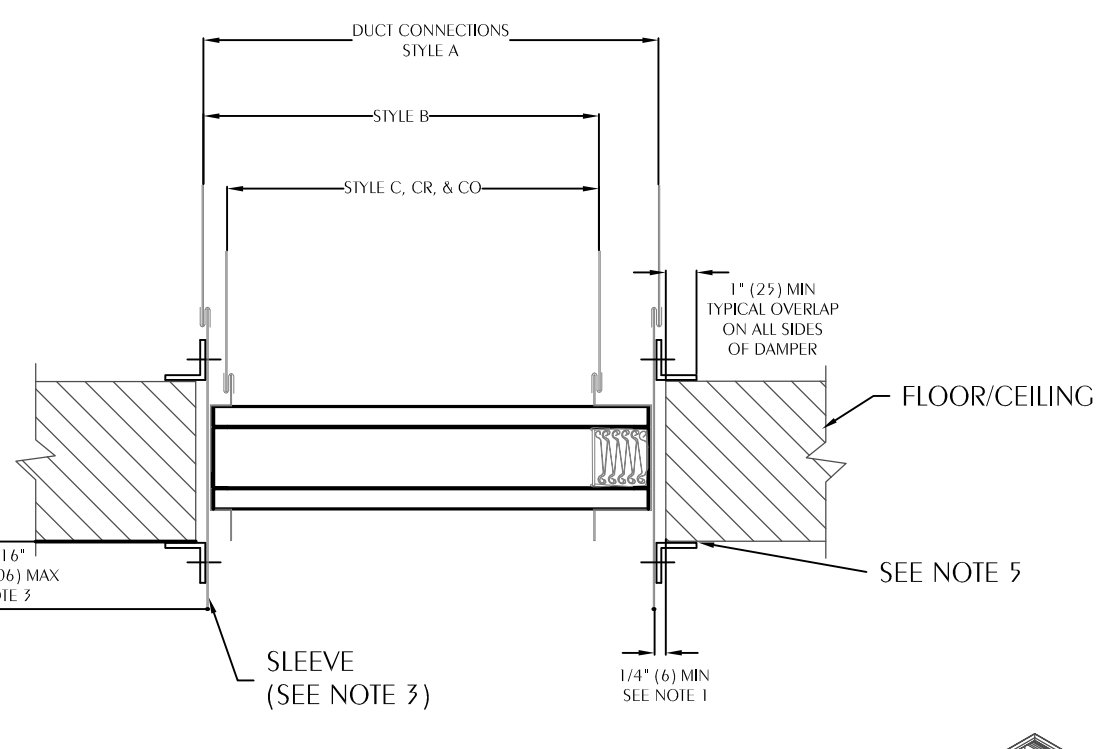

FIGURE 3
Use No. 10 (M5) bolts or screws, 3/16" (5) rivets, tack welds on spot welds as depicted in figures 3 and 4 and spaced as follows when joining individual dampers to make multiple section damper assemblies or when fastening damper to the sleeve: